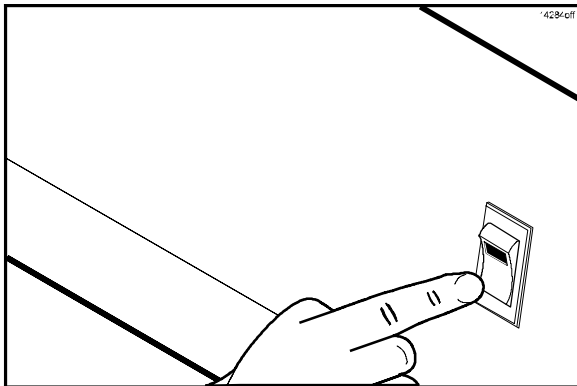

Figure 76
- Place the fan interlock switch in the OFF position. (See Figure 76.)